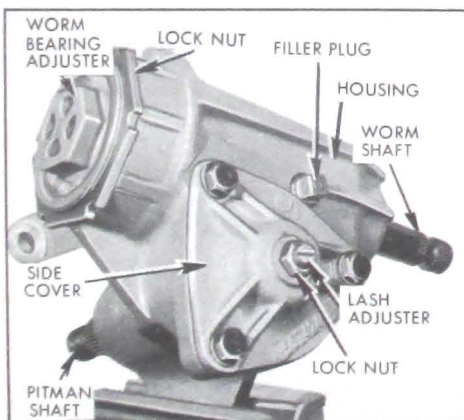

Figure 8-3—Manual Steering Gear Adjusters
There are two adjustments on the steering gear: worm bearing preload, and pitman shaft overcenter preload. See Figure 8-3.
7. Adjust Worm Bearing Preload. Loosen worm bearing adjuster lock nut using a drift. See Figure 8-3. Turn bearing adjuster as required to bring pull between 2 and 7 inch pounds. Tighten lock nut; then recheck preload.
2. Place steering gear in a soft jaw vise. See Figure 8-3. Do not clamp too tightly in vise as aluminum housing may be damaged.